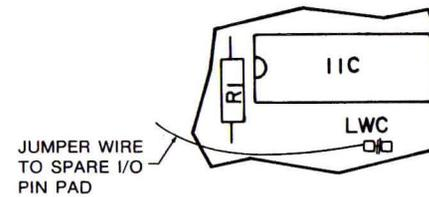

FIGURE 3-24. WRITE CURRENT
2. Add jumper wire from LWC pad as shown in Figure 3-24 to one of the unused spare I/O pin pads.